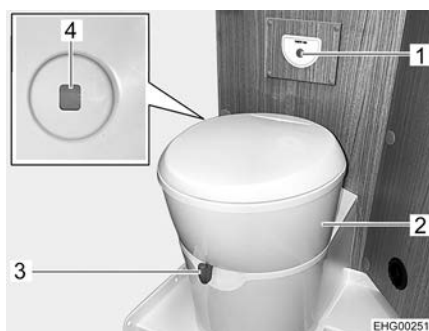

Fig. 208 Toilet
The toilet bowl can be rotated into the required position. In order to do this, grab the toilet's upper part (Fig. 208,2) with both hands and rotate it.
The operating unit with the flush button (Fig. 208,1) is installed near to the toilet bowl.
The colour of the level indicator (Fig. 208,4) changes from green to red whenever the sewage tank has to be emptied.
- Before flushing open the sliding trap of the toilet. To do this, push the slide lever (Fig. 208,3) in an anticlockwise direction.
- For flushing, press the blue flush button (Fig. 208,1).